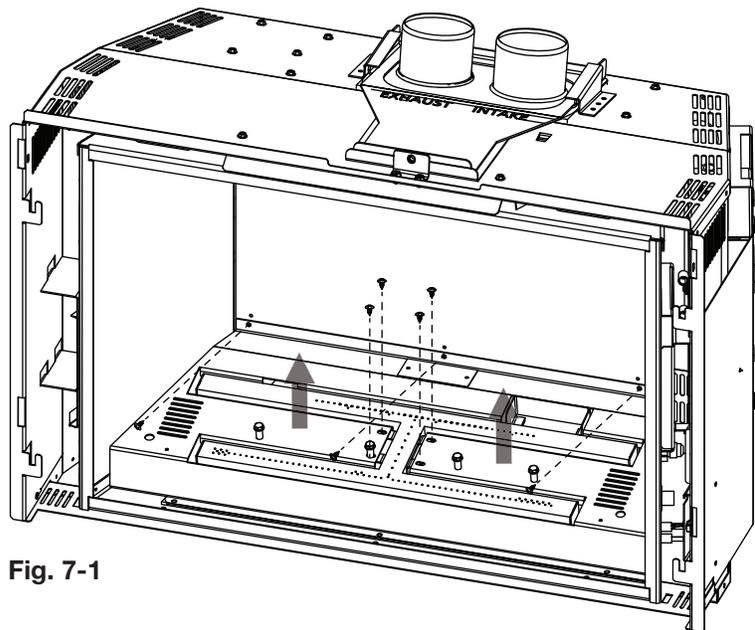

Fig. 7-1
1. Remove the 7 screws securing the media tray in place (**Fig. 7-1**).